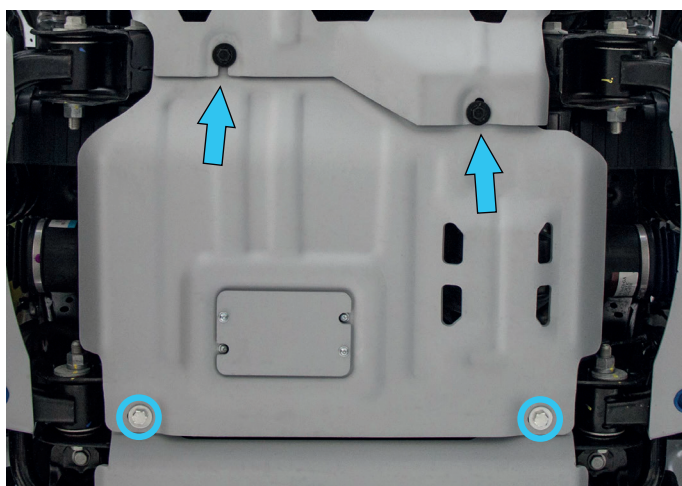

Fig. 3
2. Put the front part of skid plate (item 1) on installed bolts M10x30 and washers 10 from step 1. Fix the rear part of engine skid plate using bolts M10x30 (item A), washers 10 (item B) and spacers (item C) as shown in fig.3.